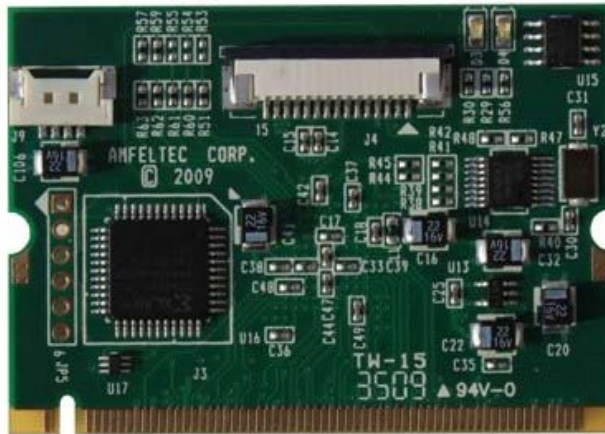

Figure 2: MiniPCI Host card
It includes MiniPCI Host card (Figure 2) and x1 PCI Express adapter board (Figure 3/Figure 4/Figure 5). The MiniPCI Host card has to be plugged into an upstream MiniPCI motherboard connector. PCI Express adapter connects to the main MiniPCI Host card via 12” Flex PCI Express cable. The expansion x1PCI Express add-in board has to be plugged into the standard PCI Express connector on the PCI Express adapter board.
- From MiniPCI Host card (3.3 volt only) via power cable and x1 PCI Express adapter board (Figure 2)